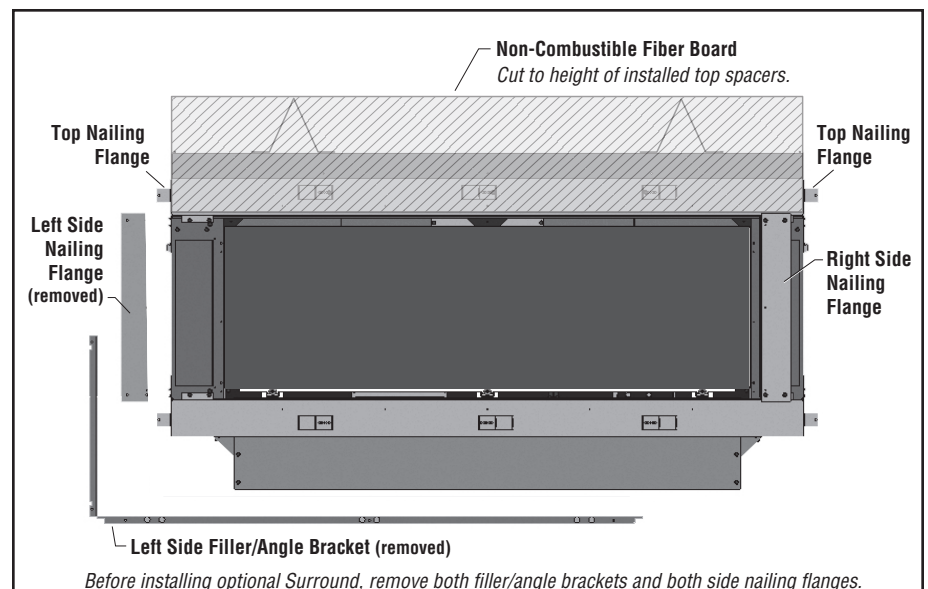

Figure 33-2: Preparing for optional Surround finish
- LEFT/RIGHT SIDE NAILING FLANGES:** Make sure the LEFT and RIGHT SIDE Nailing Flanges are **installed** (see **Figure 33-2**).
- LEFT/RIGHT SIDE NAILING FLANGES:** REMOVE the LEFT and RIGHT SIDE Nailing Flanges (see **Figure 33-2**), and discard using appropriate disposal methods.
- LEFT/RIGHT FILLER/ANGLE BRACKETS:** REMOVE the two Filler/Angle Brackets (see **Figure 33-2**), and discard using appropriate disposal methods.
- NON-COMBUSTIBLE FIBER BOARD:** See **Figures 33-2 (this page) and 34-1 (next page)**. Attach the provided non-combustible fiber board to the TOP nailing flange, and secure using field-supplied screws.